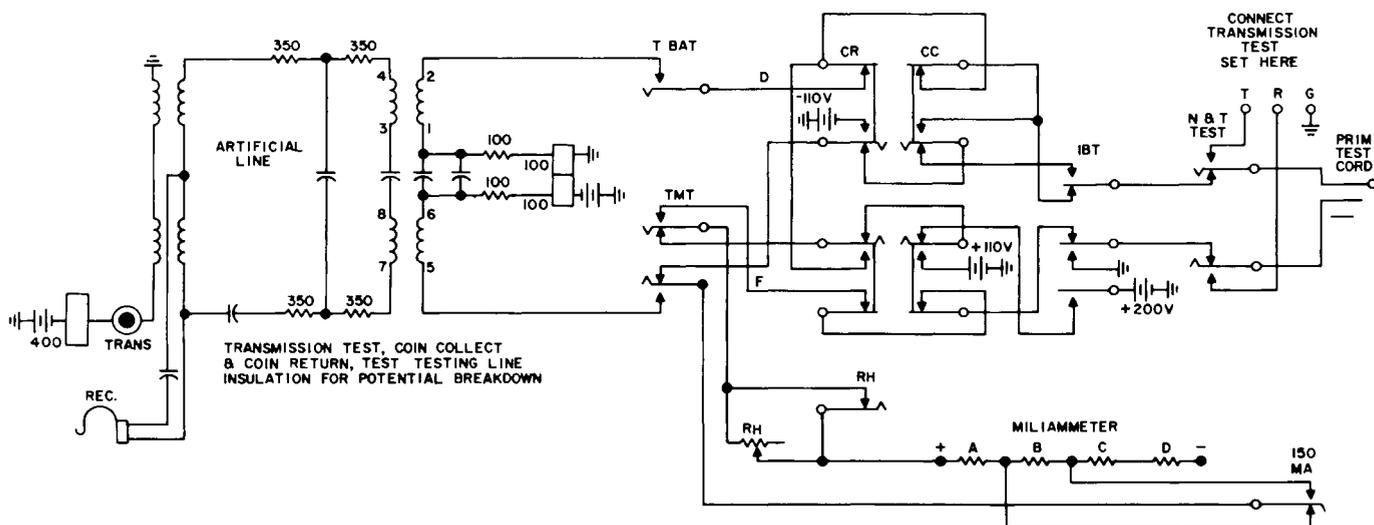

Figure 18. Milliammeter tests.
- a. Transmission test using an artificial line. An artificial line (figure 18) is connected in the circuit between the line under test and the test attendant's telephone circuit. A repeating coil separates the customer's line from the testing circuit. The transmission battery feed is through repeating-coil windings 1-2 and 5-6. The artificial line is connected to repeating-coil windings 3-4 and 7-8. With the artificial line, the transmission equivalent of the testing
- a. Testing prepay paystation coin relays (figure 18). Key CR/CC (coin return and coil collect) connects coin control battery of positive and negative potential respectively to the tip side of the primary test circuit through the meter in series with rheostat RH. The key is so wired that the current flow through the meter is always in the same direction with either positive or negative potential on the line. After establishing a connection with the paystation under test, the following coin collect and coin return tests may be made. The coin relays should be adjusted to operate on a certain specified current in order that the proper operation will be assumed and that ground potentials may not interfere.